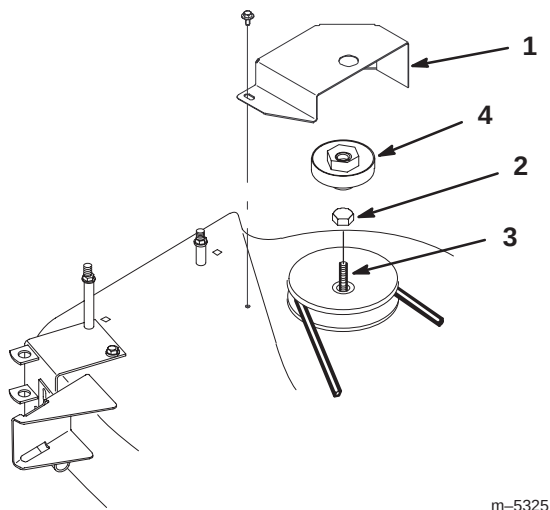

Figure 7
1. Remove the mower belt cover from the right side pulley (Fig. 7).
4. Thread the new blower pulley onto the spindle shaft in place of the pulley nut (Fig. 7). Torque the pulley to 35 to 65 ft-lb (47 to 88 N·m).